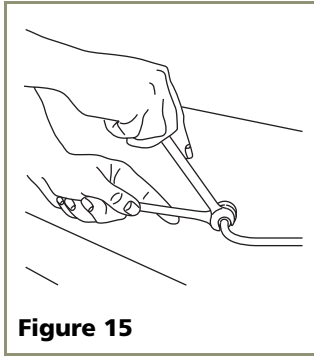

Figure 15
2. Locate the compression fitting and ferrule packed with the unit. Slide the compression fitting and ferrule over the 1/4-inch OD water supply line. Do not use thread sealing compound or tape. Using two wrenches, tighten the compression fitting on the supply line (see **Figure 15**).